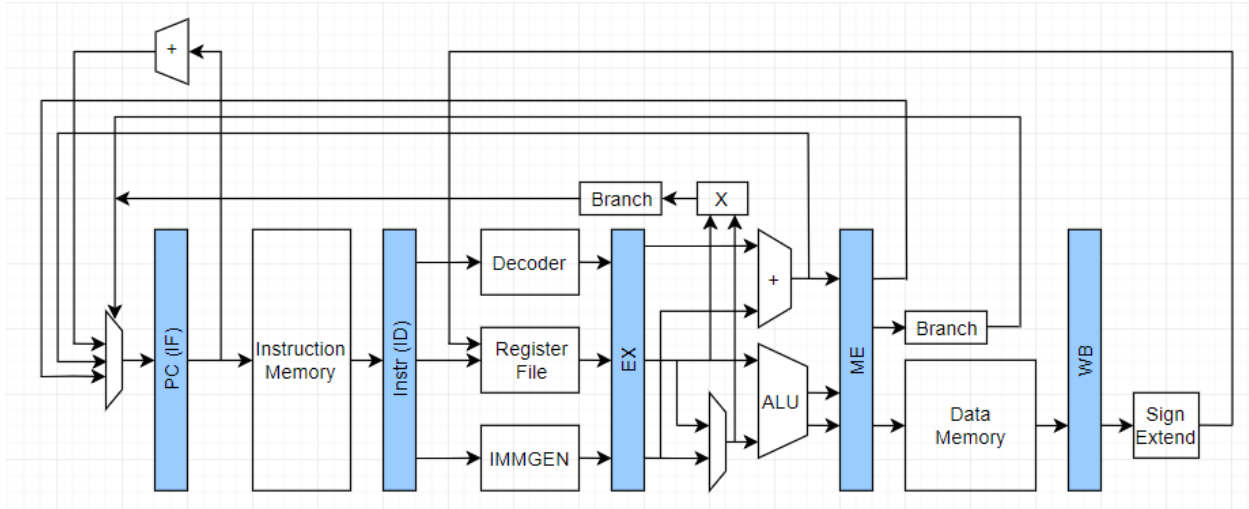

Figure 2
With some additional hardware some of the branch instructions can be modified so that only two instructions are flushed on a taken branch. Figure 2 is a block diagram of a modification which will allow some of the instructions (BEQ, BNE, JAL and JALR) to have this improvement. There are several straightforward changes which are required.
- 1) Add an XOR function in parallel with the ALU ("X" in Figure 2) to produce a faster zero output.